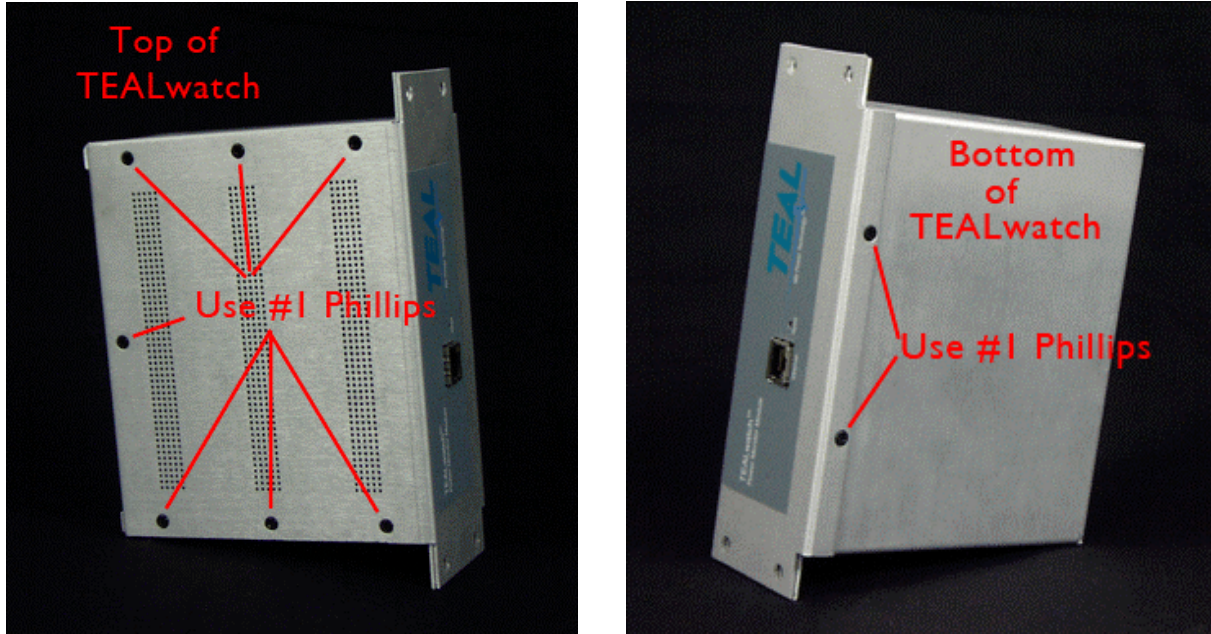
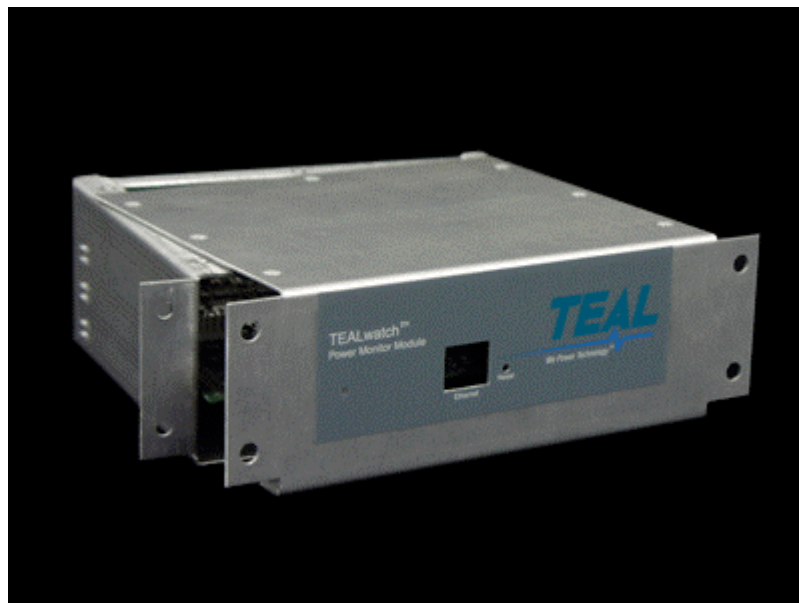

Figure 6.3.2 – Top and bottom of TEALwatch monitor box showing location of Phillips head screws holding clamshell enclosure together.
Figure 6.3.3 – Clamshell enclosure opened.
- Step 8. The TEALwatch® module is a 2-piece clamshell enclosure. There are 7 screws on the top of the enclosure, and 2 screws on the bottom (refer to Figure 6.3.2) that hold the clamshell together. Remove these 9 screws to open the clamshell as shown in Figure 6.3.3. Retain the hardware, as you will need it to close the clamshell enclosure later.